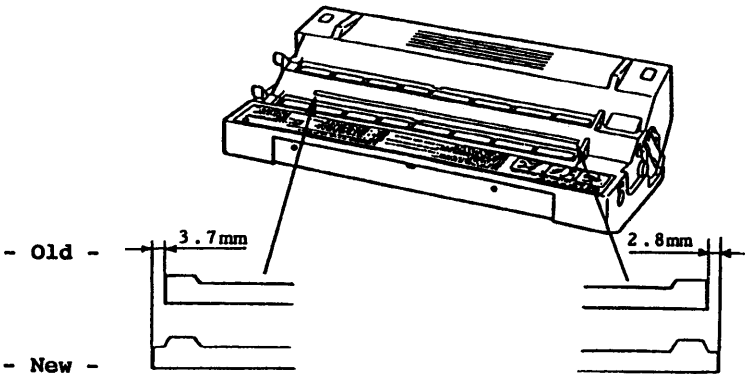

Figure 4
4. The primary corona wire access window has been lengthened (figure 4).